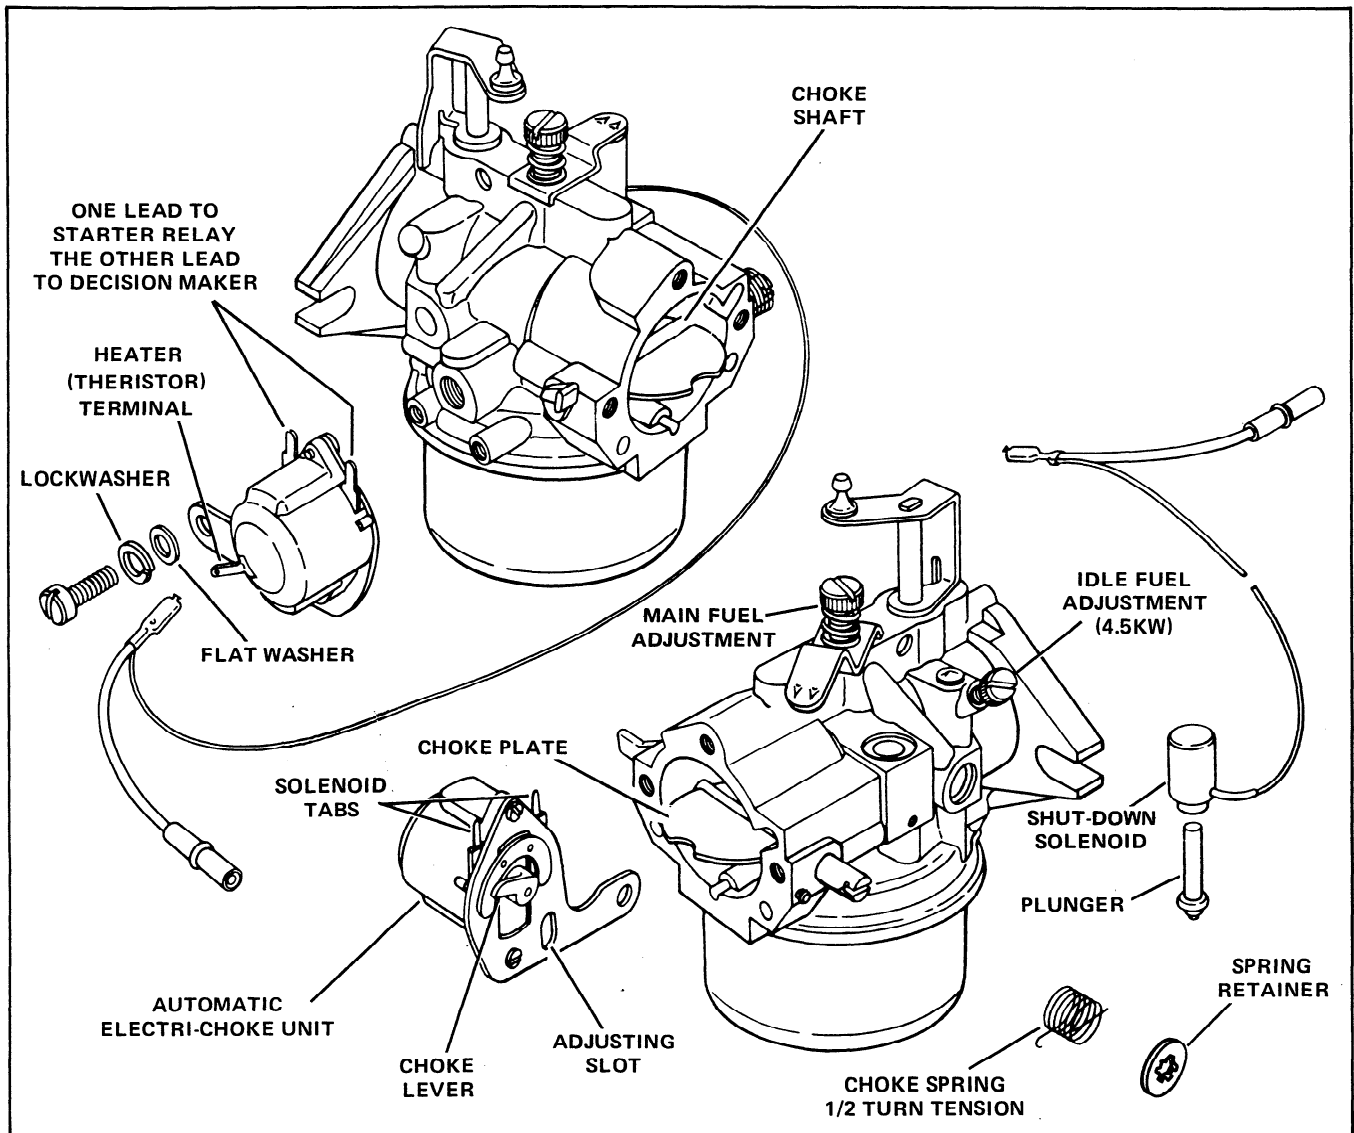
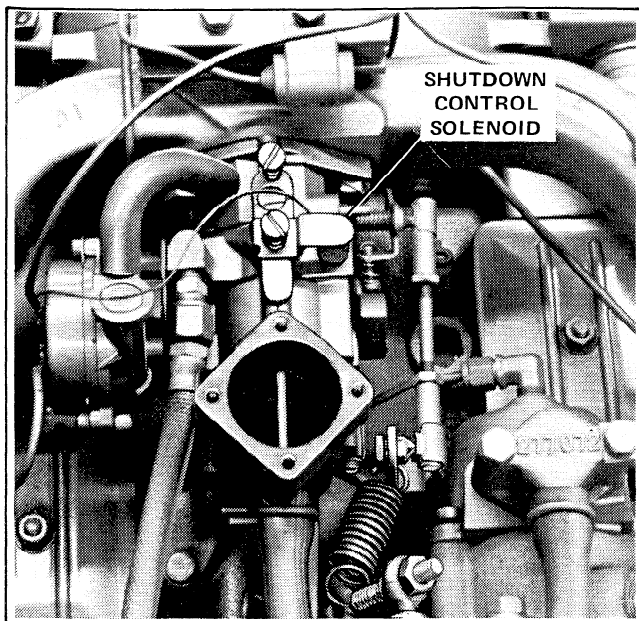

Figure 7-1. Choke and Carburetor (3.5KW, 4.5KW)
Figure 7-3. Shutdown Control Solenoid
7-1.1 General. When the engine start switch is activated, battery current activates the rotary solenoid in the electric choke unit (Figure 7-1). The choke lever pushes the choke plate into full choke position. A timer inside the Decision Maker controller de-energizes the solenoid after five seconds. When the solenoid de-energizes, the choke plate opens to a position determined by a thermostatic spring and the ambient temperature. As the engine warms and less choking is needed, the thermostatic spring allows the choke plate to gradually move to full open position.
1. Disconnect leads from the solenoid tabs (Figure 7-1).
7-3.1. General. If an engine has been working under load, it tends to continue running or "diesel" after the switch is moved to the stop position. This is prevented on these generator sets by a solenoid and plunger which positively stops all flow of fuel when the switch is moved to the stop position. See Figure 7-1 or Figure 7-3. The solenoid is mounted on the carburetor. When the switch is in the